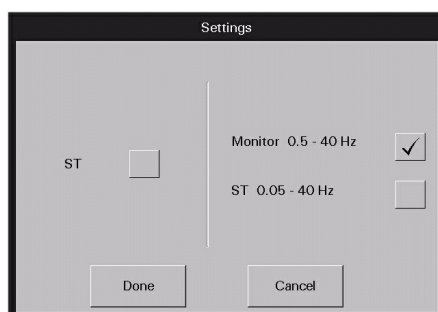

FIGURE 9-42 Settings Dialog Box
1. Select the **Settings** sidebar button in the **Unit Choices** tab. The **Settings** dialog box (shown in FIGURE 9-42) is displayed.